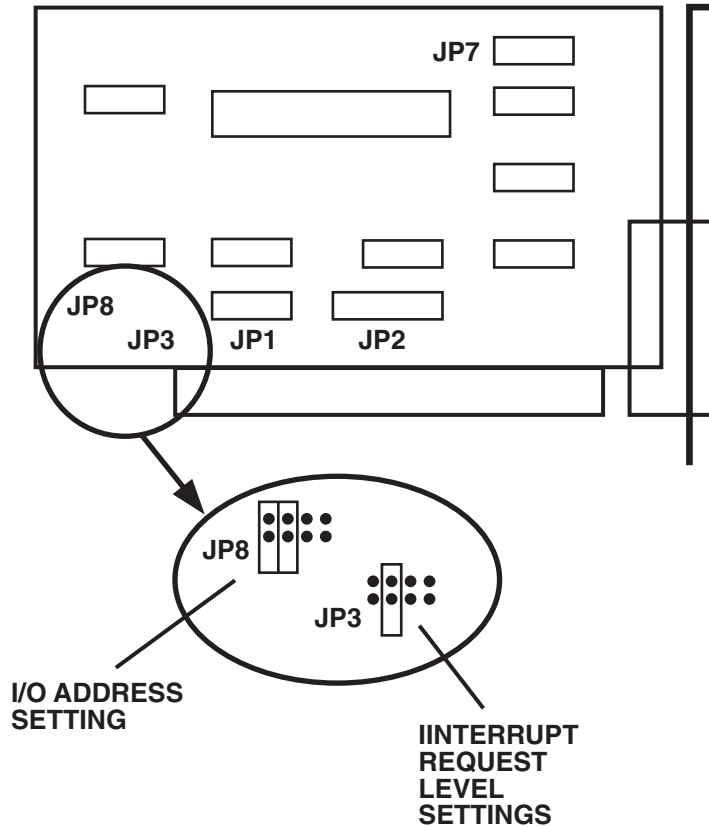

Fig. 4-1. Jumper Locations on the MPA Board.
**Fig. 4-1** shows the location of the jumpers for both JP3 and JP8 on the MPA Board.